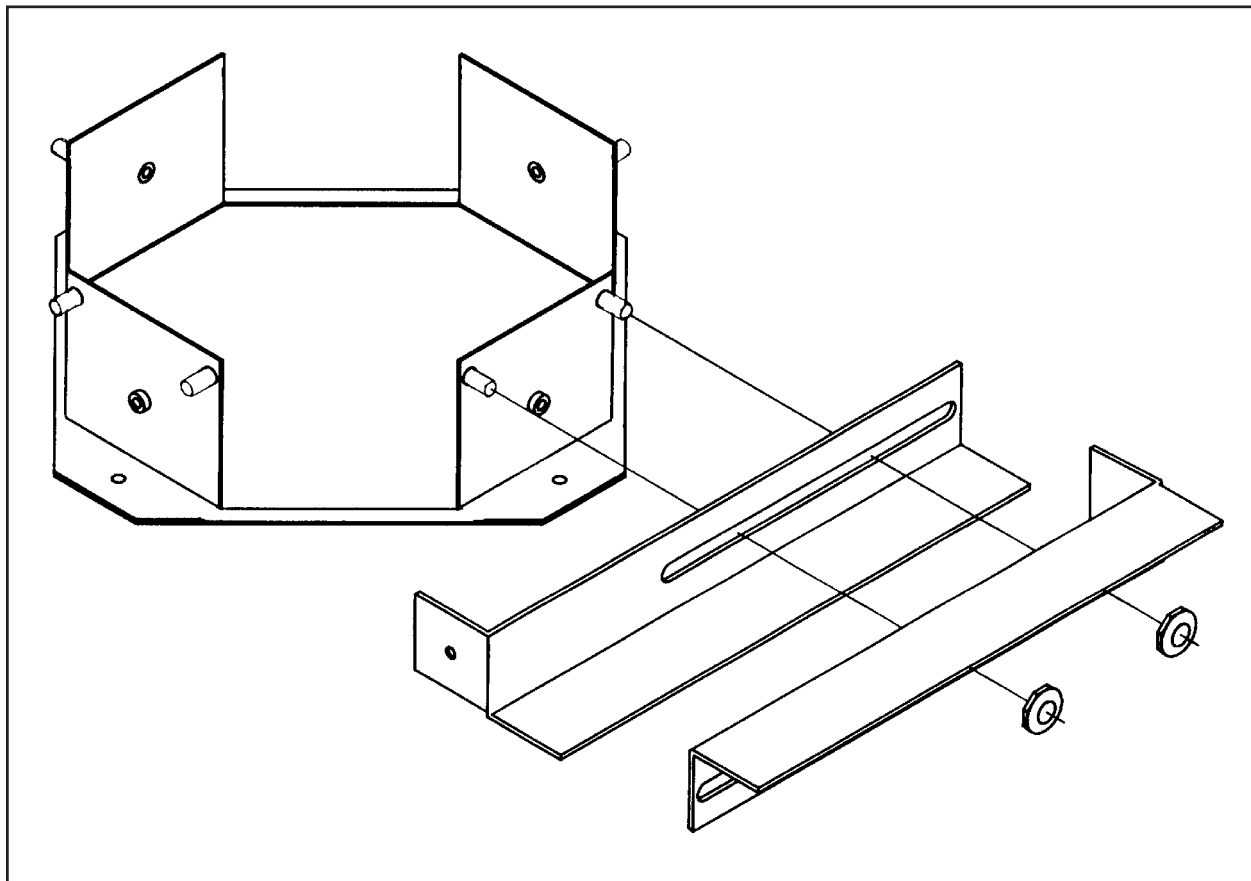

Figure 2. Back Box Mounting Rail Installation
3. Remove the factory assembled 14.5" square mounting plate by removing the four (4) 1/4-20 bolts.
6. Replace the ceiling tile and place the mounting plate on top of it, centering the plate on the tile. Attach the back box mount rails with 1/4-20 nuts (provided) to two opposite sides of the mounting plate. Use these mount rails to secure the back box in place so that it can't move when inserting or removing the dome drive unit, and so that all of the weight of the unit is not on the ceiling tile, per local code. (Refer to Figure 2.)
2. Angle the 23.75" back box mounting plate (part number APSB19, which must be ordered separately) through the grid opening and set the plate into the grid. Attach the back box mount rails with 1/4-20 nuts (provided) to two opposite sides of the mounting plate (see Figure 2). Use these mount rails to secure the back box in place so that it can't move when inserting or removing the dome drive unit, and so that all of the weight of the unit is not on the ceiling tile, per local code.
4. Remove the factory assembled 14.5" square mounting plate by removing the four (4) 1-4/20 bolts.
5. Slide the back box through the mounting plate and replace the four (4) 1/4-20 bolts and tighten to secure the back box to the mounting plate.
3. Remove the factory assembled 14.5" square mounting plate by removing the four (4) 1/4-20 bolts and place it over the opening. Attach the back box mount rails to the mounting plate with 1/4-20 nuts (provided) to two opposite sides of the mounting plate (see Figure 2). Use these mount rails to secure the back box in place so that it can't move when inserting or removing the dome drive unit, and so that all of the weight of the unit is not on the ceiling tile, per local code.
4. Slide the back box through the mounting plate and replace the four (4) 1/4-20 bolts and tighten to secure the back box to the mounting plate.